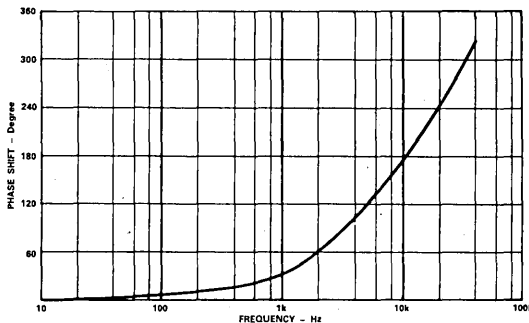

Figure 5. Typical AD293/AD294 - Phase vs. Frequency
**Phase vs. Frequency:** The phase vs. frequency responses, for the AD293/AD294, is shown in Figure 5. The bandwidth is sufficient for the majority of isolation applications where accurate signal measurements must be made in the presence of noise and high common mode voltages.